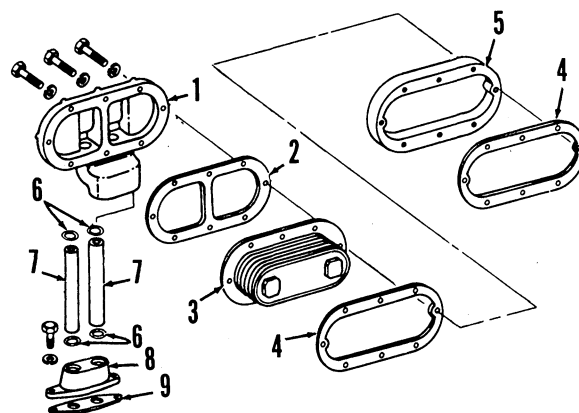

Fig. 62—Exploded view of engine oil cooler assembly. Spacer (5) is not used on Model 4050.
51. All models are equipped with an engine oil cooler of the type shown in Fig. 62. The oil is cooled by the engine coolant which circulates through tubes in the cooler body. Disassembly for cleaning or other service is normally not required except in cases of contamination of cooling system or lubrication system.